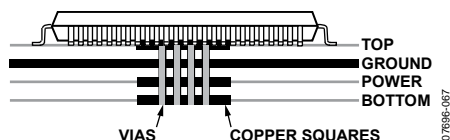

Figure 59. Exposed Pad Layout Example—Side View
- A copper layer equal in size to the exposed pad should be on all layers of the board, from top to bottom, and should connect somewhere to a dedicated copper board layer (see Figure 59).